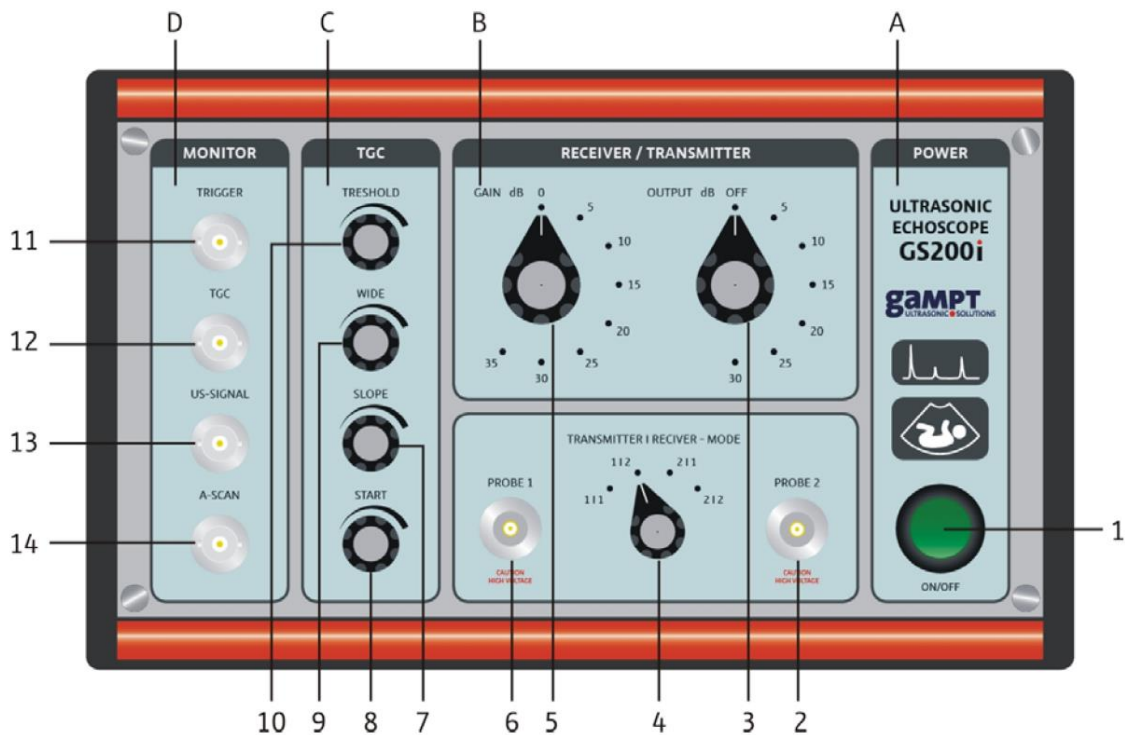
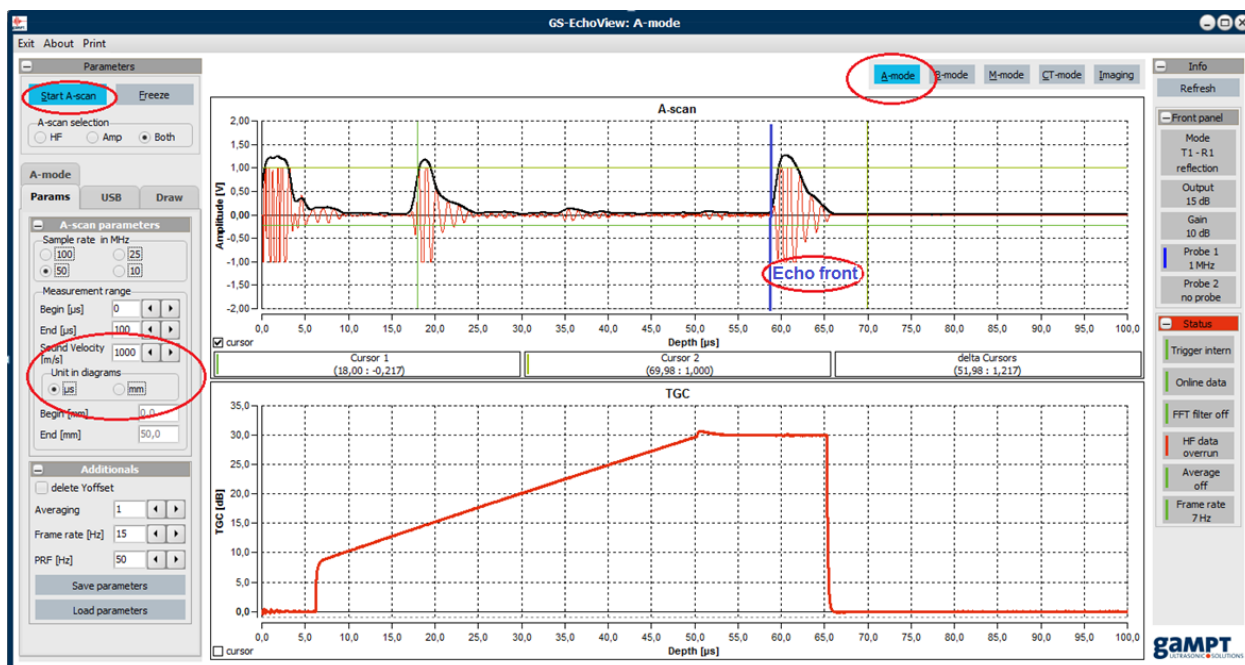

Figure 2. Front panel of the echoscope GS200.
Figure 3. Main window of the GS-EchoView program.
- Connect the 1-MHz sensor (blue) to the socket “Probe1” (see figure 2).
- In the window “A-mode” find the tab “params” and set the parameters “begin” and “end” to 0 and 100, respectively (see figure 3).
- Get the TGC profile like that shown in figures 3–4 (tune the time gain) using the handwheels 7–10 of the block C (figure 2). Initial settings of the switchers 3 and 5 (figure 2) of the block B should be “Gain” = 10, “Output” = 10. If necessary, change these numbers (depending on the studied model).
- Set the transmitter/receiver mode to “1 | 2” (transmission; figure 2).
Note 2: The amplitude of echoes is decreasing very quickly (according to the exponential function (1)). The acquired signal is increased as set in blocks **B** and **C** of the echoscope (figure 2). The amplification factor (gain) is increased smoothly by TGC decibels so that the latest (and hence the weakest) signals are increased most strongly. The true amplitude A of the echo acquired at time t can be calculated from the value A^{pr} shown by the program in the A-scan window as
- Set the transmitter/receiver mode to “1 | 1” (reflection; figure 2).
- Using the data found on the previous stage, find the speed of sound using Eq. (5). Before that, transform the units of measurement to the SI units: meters and seconds.